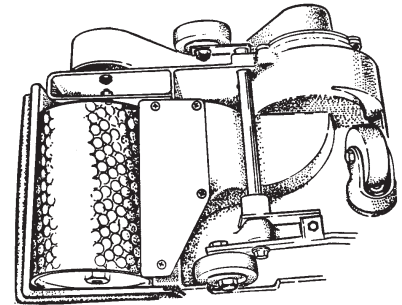

Figure 6b
5. Align the dust shoe with the drum and tighten screws. See Figure 6b.